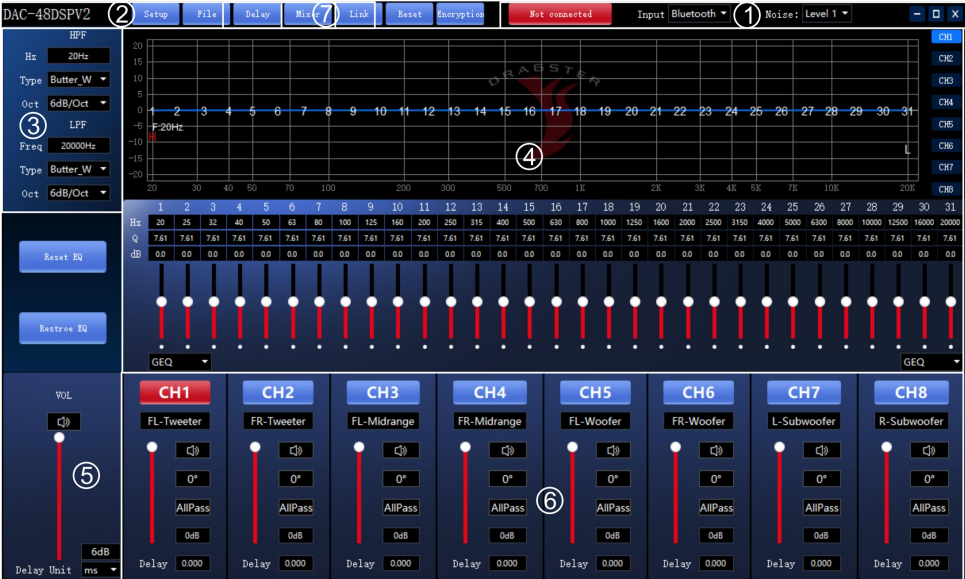
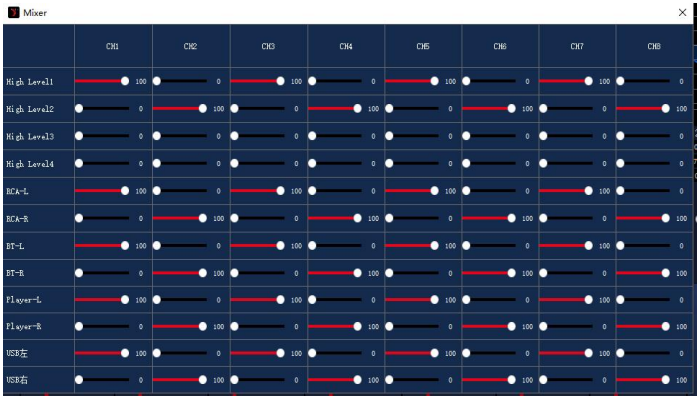

Figure 3.2.2
figure 3.3.14
1. as shown in figure 3.2.2, "1", input signal selection: high level, Bluetooth, RCA, player, USB DAC.
2. as shown in figure 3.2.2 "2", shows the main menu and connection status.
3. as shown in figure 3.2.2 "3", the high-pass and low-pass Settings of the divider.
4. as shown in figure 3.2.2, "4", area is output channel EQ setting.
5. as shown in figure 3.2.2, "5", shows the setting of delay space.
6. as shown in figure 3.2.2, "6", output channel configuration and common parameter adjustment area.
7. as shown in figure 3.2.2, "7", shows the setting of Mixer space.
In the online mode, in Figure 3.2.2 "1", click the appropriate input source, you can switch the audio input signal.
"6" area, click on the corresponding channel number in Figure 3.2.2 (CH1, CH2 CH8), you can switch to the corresponding channel to adjust relevant parameters when changing the channel editing, where there are only 3.2. 2 "4" zone (crossover and equalization parameters) will vary depending on the channel and change the parameter values.
Mixer settings: click "mixer" in the "7" area in Figure 3.2.2, then you can switch to (Figure 3.3.14) the relevant parameter settings for the corresponding adjustment.